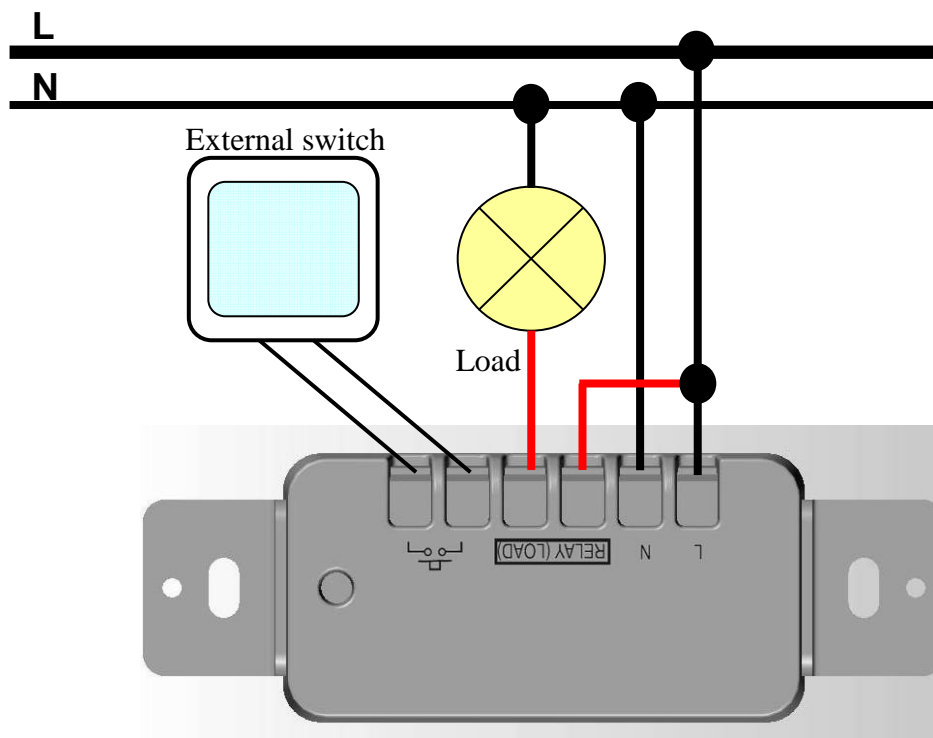

Figure 1
**Step 2** **Identifying your wiring application:** refer to figure 1 and 2
**Step 3** **Connecting wires:** refer to figure 1 or 2 and connect the wires with correct symbols. Use at less 75°C copper wire only and the stripped wire end's length must be 9mm. The tightening torque must be 3.5lb-in. (Make sure all wires are firmly fixed at all terminals)